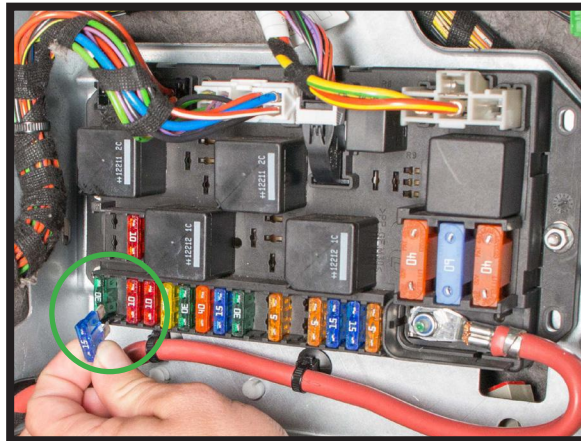

FIGURE 74
8. REMOVE THE VDS FUSE. (FIGURE 74)